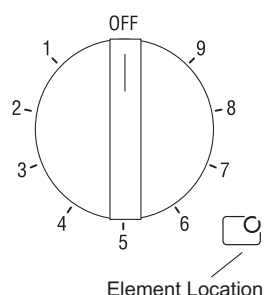

Figure 3: Single Element Burner Knob
4. Push top rack the rest of the way in (See Figure 3).